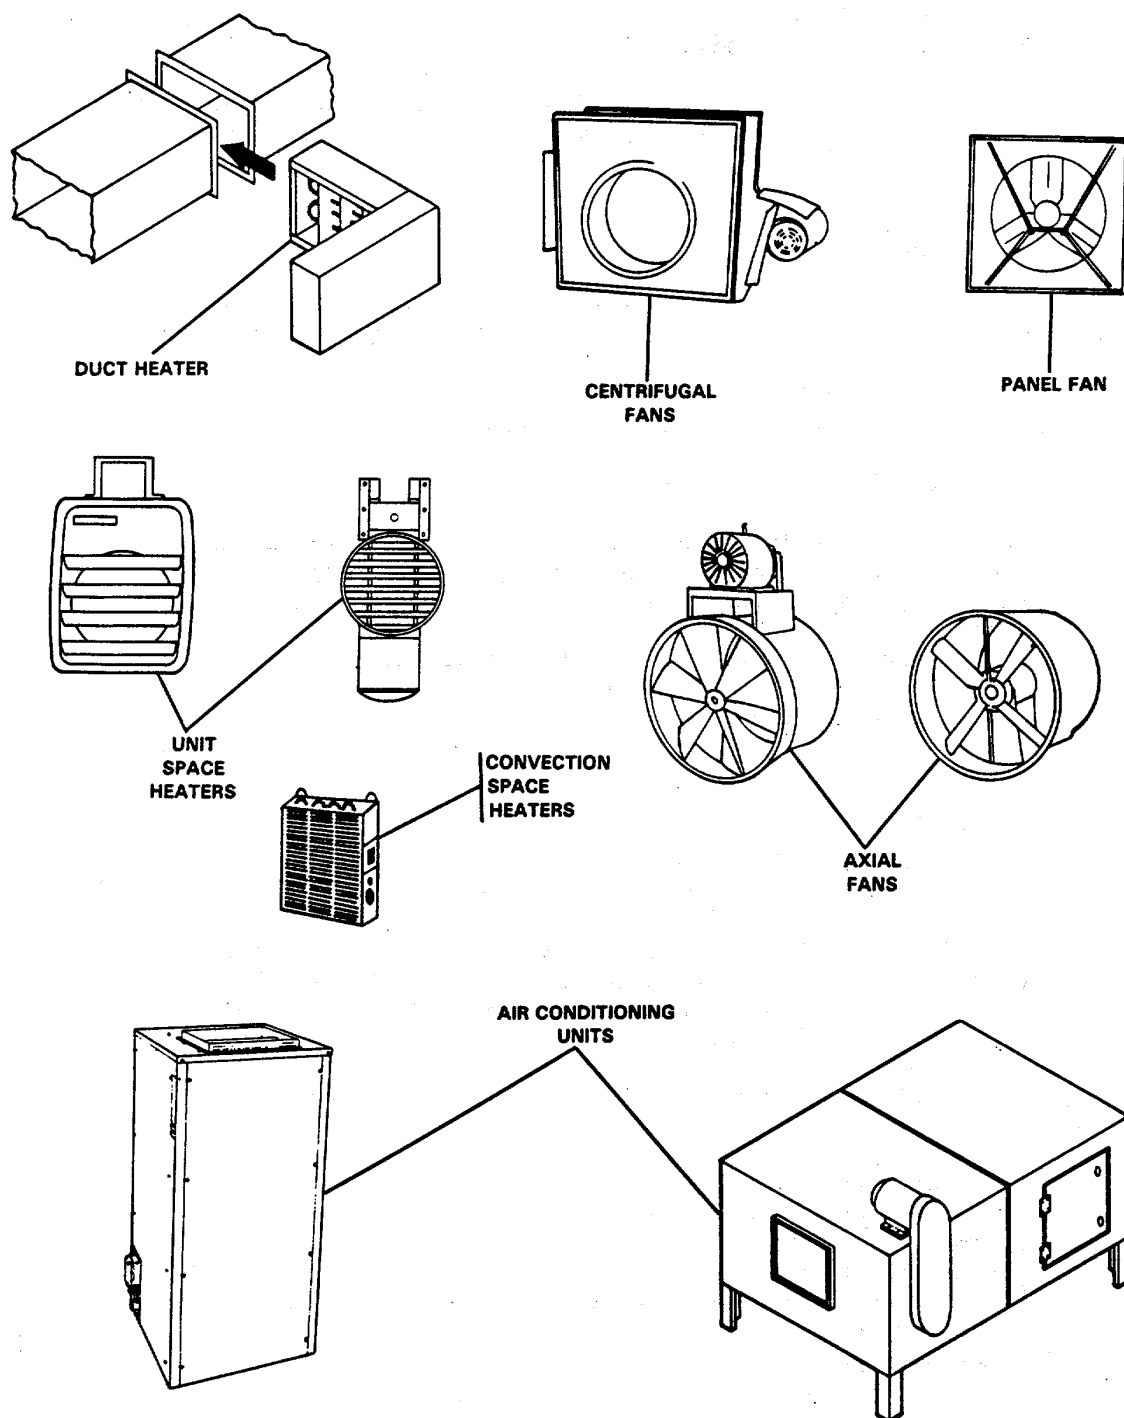

Figure 1-1. Major Components in Environmental Subsystem (HVAC).
- 1-7. Characteristics, Capabilities, and Features.** The environmental control subsystem equipment, shown in FIGURE 1-1, is the equipment required to heat, ventilate, and air condition the living and working spaces aboard the vessel.
- (1) Duct Heaters
1-8. Location and Description of Major Components. FIGURE 1-1 shows the major components in the environmental control subsystem. Tables 1-1 thru 1-6 list components, areas served, and electrical specifications of the components in the system. For the locations of ducting, duct component, and remote mounted controls, refer to TM 55-1905-223-10.